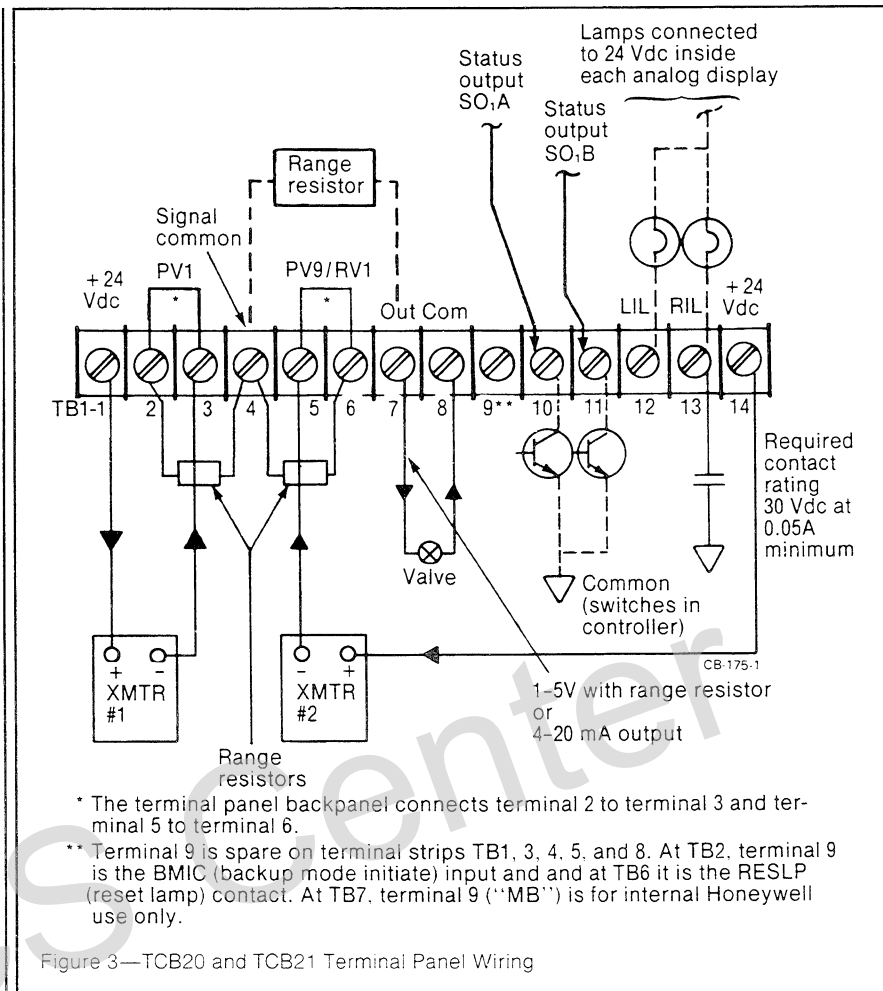
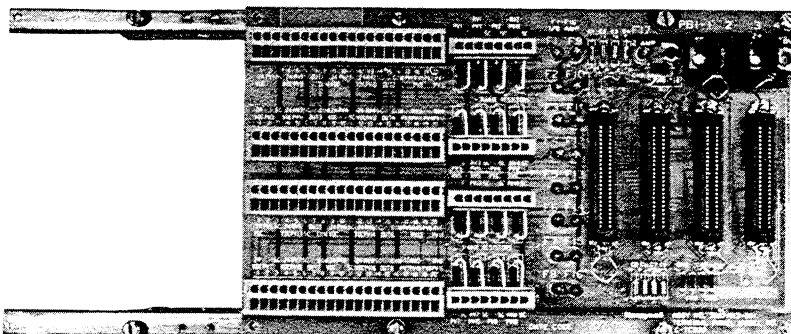

Figure 3—TCB20 and TCB21 Terminal Panel Wiring
Figure 7—TCB30 Terminal Panel
The interface between the process and the Controller, exists at the printed wire terminal panel (C-TCB20, C-TCB21, or C-TCB30). Input wires from field sensors and output wires to final control elements are connected at terminal strips as indicated in Figure 3 and 4. Terminals 10 and 11 on C-TCB20 and C-TCB21 also may be used for low and high alarm wiring, while terminals 12 and 13 provide outputs for left and right indicator lamps (LIL and RIL) on Analog Displays. Terminal panel C-TCB30 does not provide for alarm or indicator lamp outputs. However, it can accommodate alarm functions if used in conjunction with terminal panel TPM01 or TPM02.
All analog field input/output (I/O) signals terminate at the Controller's terminal panel. Panel TCB20 or TCB21 or the more compact TCB30 (Figure 7) has screw terminal connections for each terminal strip's analog input and output signals (see Figures 3 and 4). The Terminal Panels provide for 16 process variable (PV) input signals, including screw terminals for range resistors if required, to match a variety of standard input and output ranges. (Duplicate PV input screws provide space for range resistors.) Eight analog output signals dedicated to slots 1 through 8, emanate from 4-20 mA drive circuit. On TCB20 or TCB21, one output emanates from each of eight terminal strips: on
TCB30, two outputs emanate from each terminal strip. Figure 3 and 4 show two independent +24-volt supply terminals for each slot, along with corresponding fuses, for external relays or transmitter modules. These drive signals connect via the terminal strip, to a final control element such as a valve.